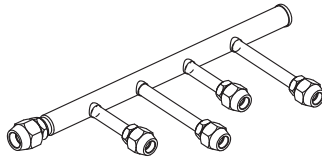

Fig.3
- The BABH002NF-D2 structure is displayed in Fig.3.